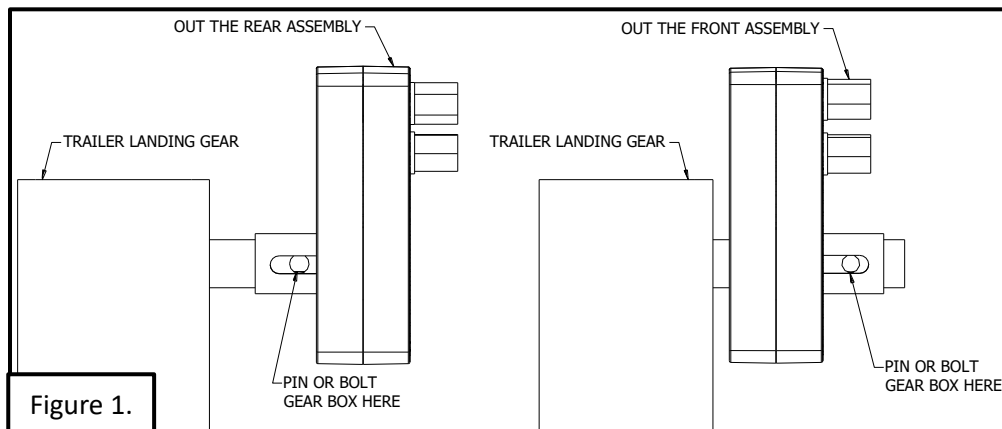

Figure 1.
**Note:** The Michel's EZ-Lift will come preassembled as a "Out the Front Assembly". See Figure 1.